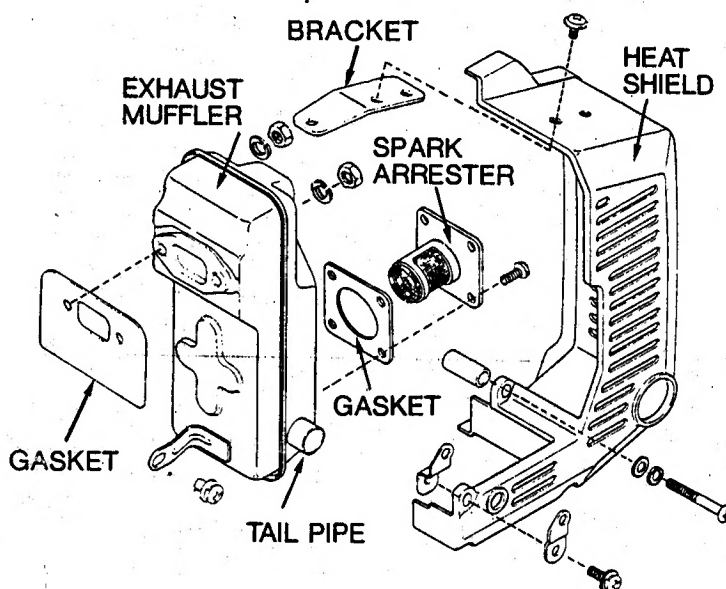

FIG. 10 - MUFFLER/SHIELD DETAIL
**SERVICE** arrester after each 5 hours of operation. After muffler parts have cooled down, take the cover off the muffler and remove the spark arrester as shown in figure 10. Clean the arrester screen with a wire brush. Check to make sure screen has not deteriorated to the point where sparks could escape. Replace arrester and or gasket as needed. Reinstall components in sequence shown. **WARNING:** Never touch hot muffler or cover!